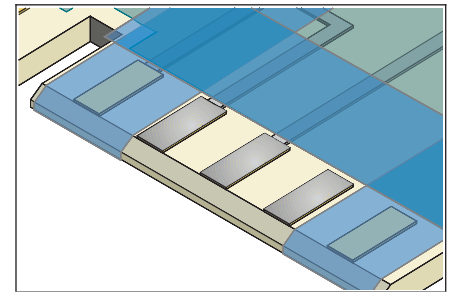

Figure 1 Apply tape.
2. Apply plating tape to the printed circuit board surface surrounding the area to be reworked. (See Figure 1.) The plating tape will protect adjacent components and the printed circuit board surface from unwanted exposure to stripping and plating solutions.